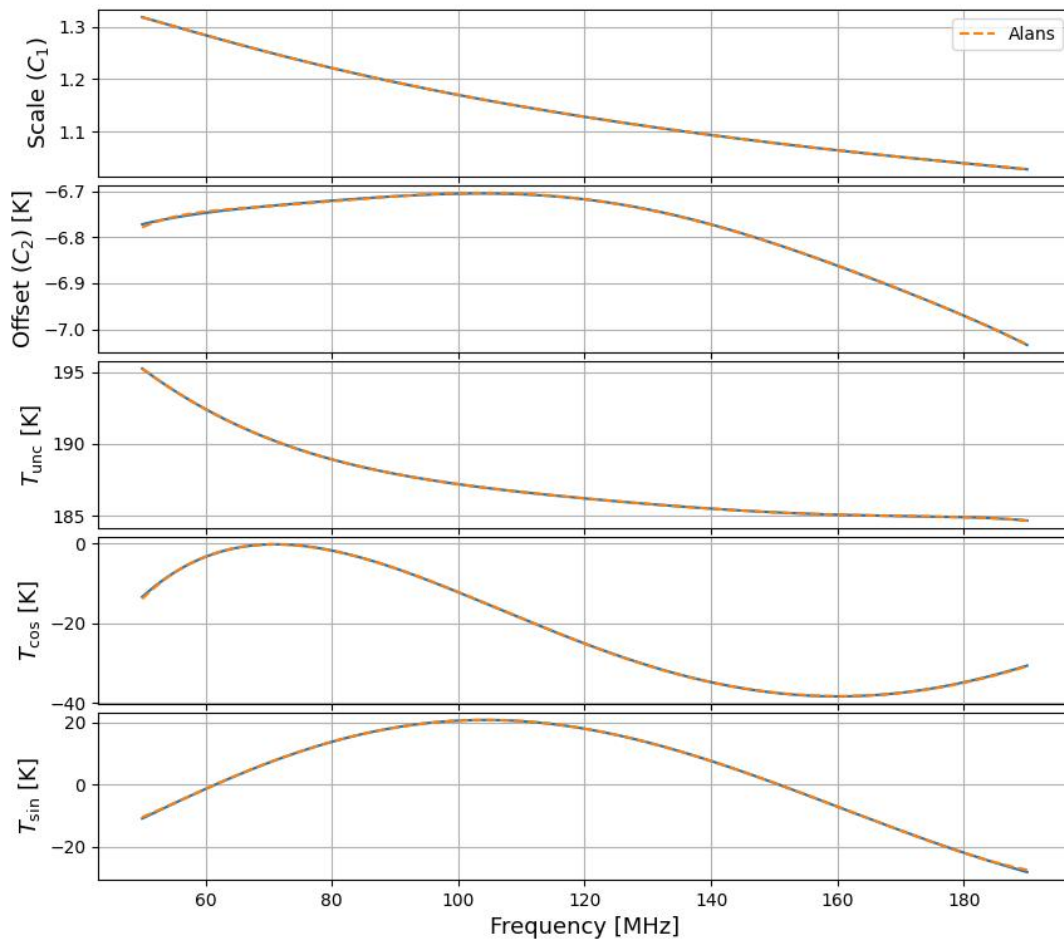

Figure 6: Comparison of calibration co-efficients obtained from Alan’s pipeline and edges-cal.
- Figure 6 shows the comparison of calibration coefficients obtained from each pipeline